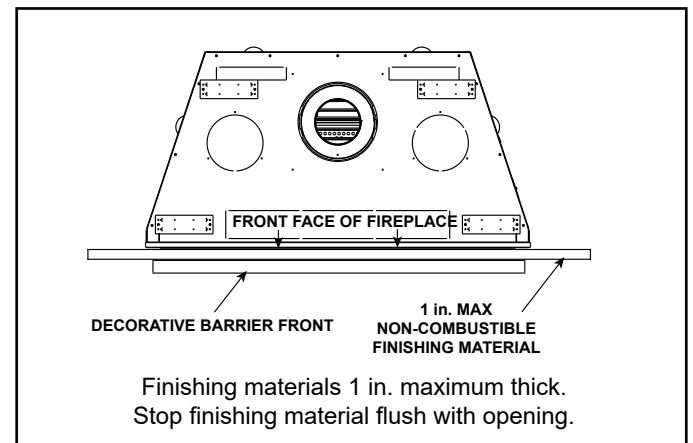

Figure 10.13 Overlap Fit Decorative Barrier Front
- Overlap fit as shown in Figure 10.13. Decorative barrier front is installed on top of finishing material.